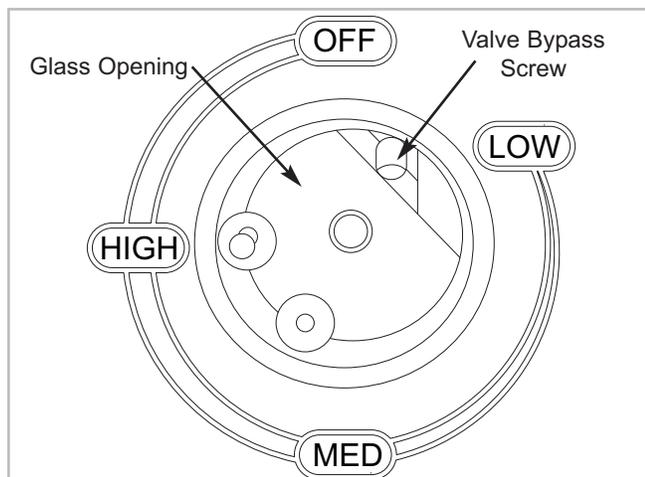

Figure 2. Valve Bypass Screw (Domestic)
2. Insert a small blade flat head screwdriver through opening in glass to extract and replace valve bypass screw. If needed, use a needle nose pliers to grab and lift existing bypass screw after unthreading it with the screwdriver, and to insert new bypass screw before tightening with screwdriver (See Figure 2 or 2A).